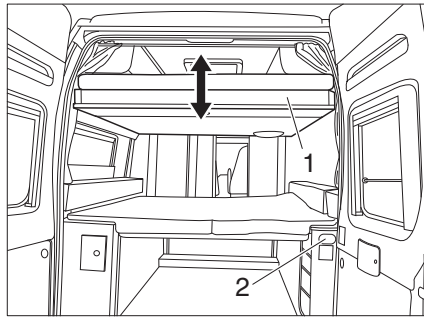
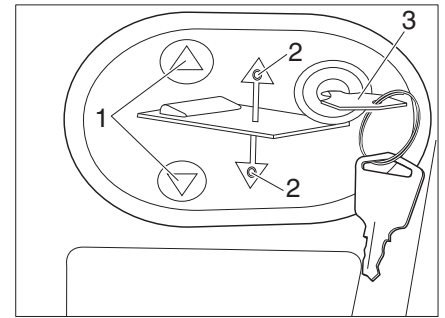

Fig. 54 Electrical pull-down bed
Fig. 55 Operating panel for electrical pull-down bed
- Insert the key (Fig. 55, 3) into the operating panel (Fig. 54, 2).
- Press the  or  button (Fig. 55, 1) and keep it pressed. The respective LED (Fig. 55, 2) lights up and the pull-down bed (Fig. 54, 1) is lowered or raised.
- When the desired position has been reached, release the  or  button (Fig. 55, 1). The respective LED (Fig. 55, 2) extinguishes.
- Remove the key (Fig. 55, 3).